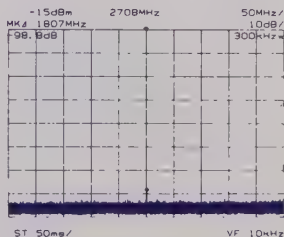

Fig. 3-8 Third harmonic level measurement
Step 14 When is pressed in the case, the ratio of the third harmonic to the fundamental wave is shown in dB. The value obtained in this case is -97.8 dB. (See Figure 3-8.)